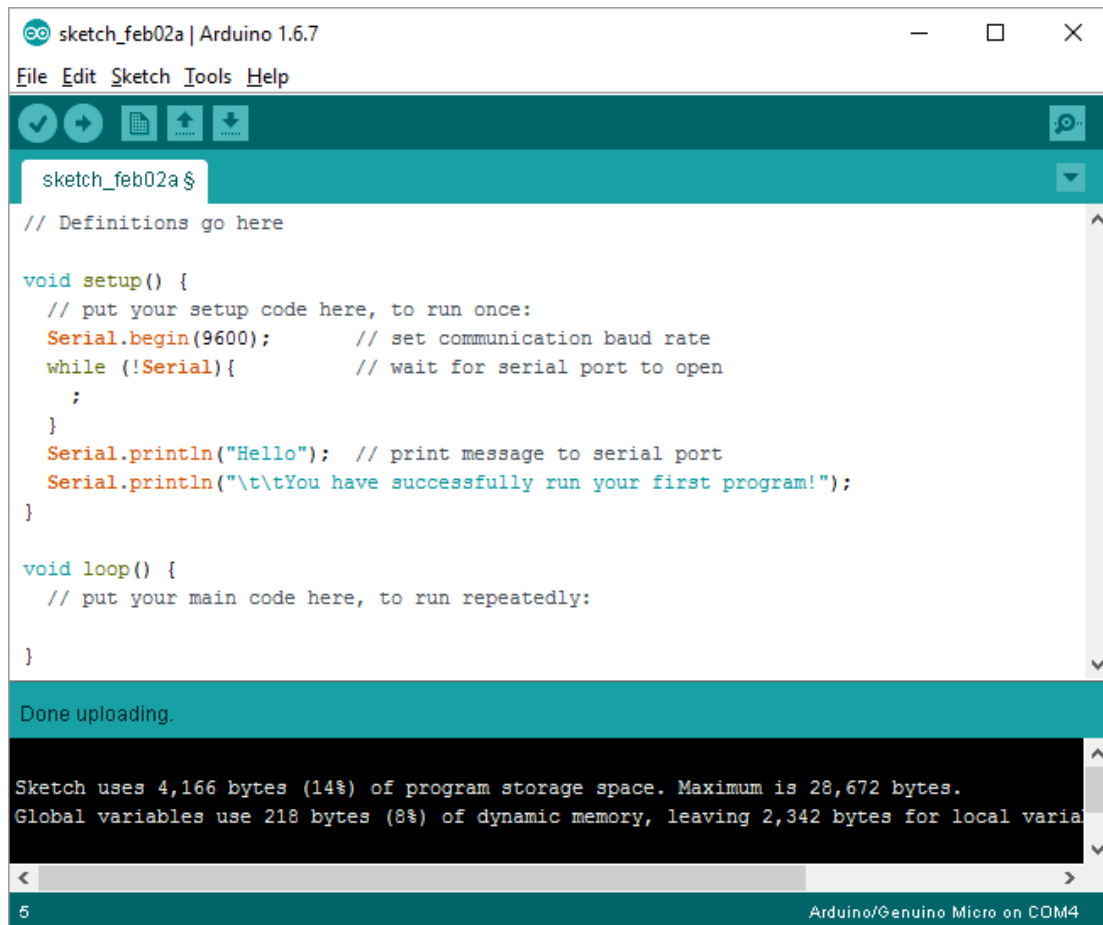

Figure 9. Hello program
- 7 Modify the sketch to add the following to the **void setup()** (see Figure 9).